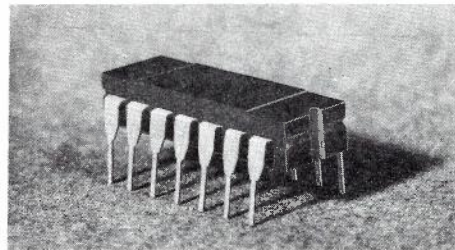

FIG. 42. DUAL-IN-LINE PACKAGE.
- **DUAL-IN-LINE.** Fig. 42 illustrates the Dual-In-Line package. These normally have 14 or 16 leads, although packages are made with from 8 leads to 36 leads.